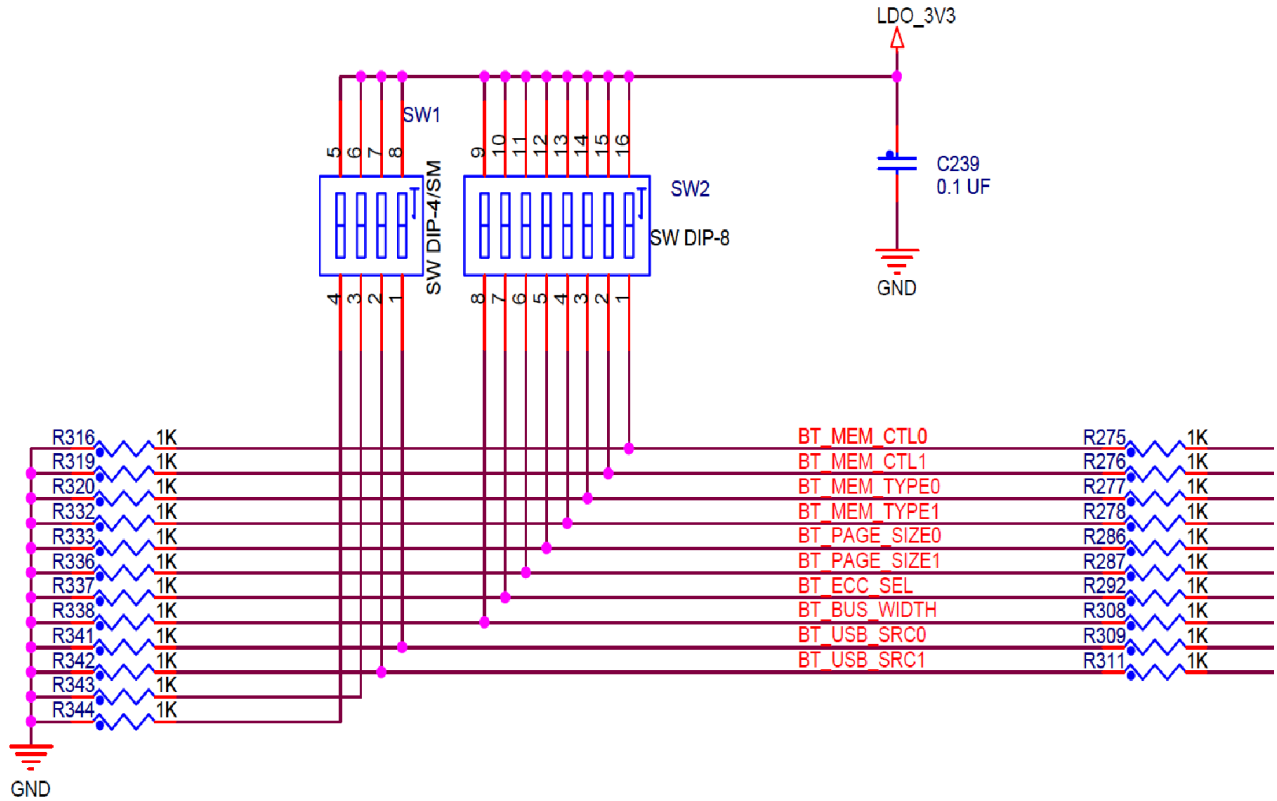

Figure 2. Personality board with the DIP switch option
- Dip switch option on the personality board, as shown in Figure 2.